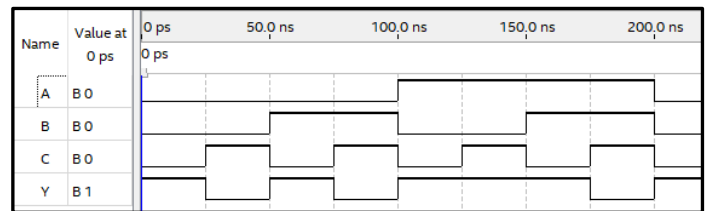

Figure 10: Output of Functional Simulation
- 2) Zoom in on the window. You should see something similar to Figure 10. This file is not saved, so if you need a copy of it, use something like the “Snipping Tool” in Windows.